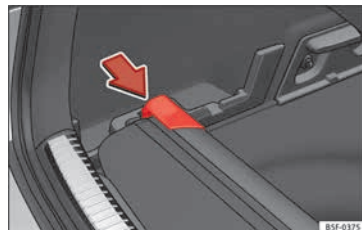

Fig. 164 In the luggage compartment: housing for storing the rear shelf.
- Press the head of the rear shelf in the direction of the arrow until it engages in its housing » **Fig. 164.**